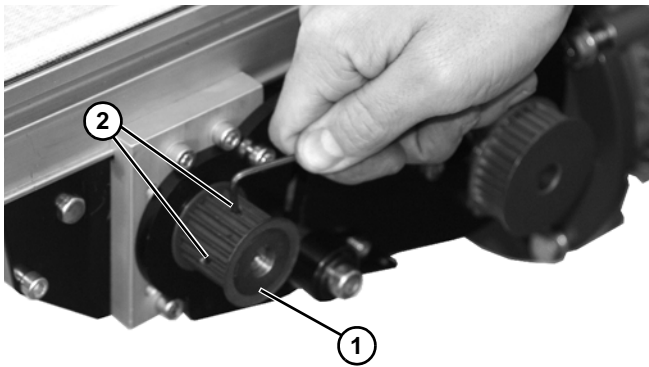

Figure 5
6. Install driven pulley (**Figure 5, item 1**) onto spindle shaft. Tighten two set screws (**Figure 5, item 2**) to 35 in-lb (4 Nm).